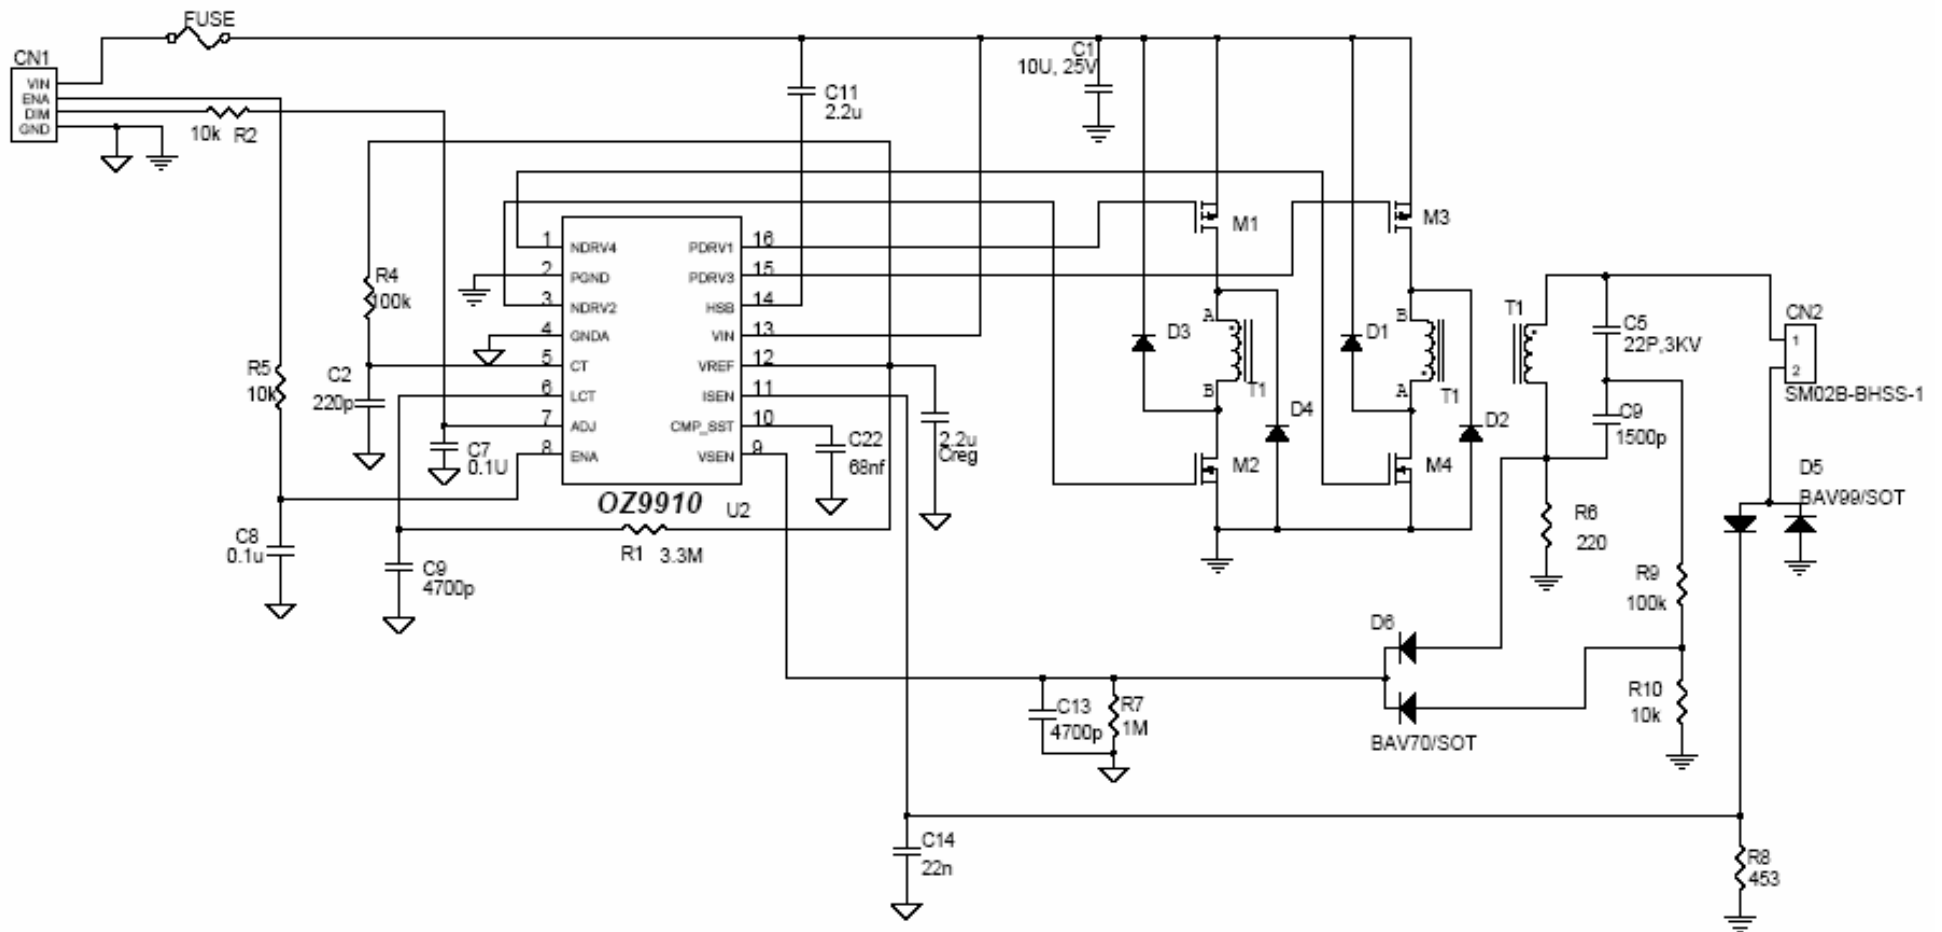

Figure 2. Application Circuit for CCFL
Referring to the schematics shown in Figures 2 and 3 on pages 10 and 11 the OZ9910 drives a zero-voltage switching (ZVS), dual forward power stage where the transformer couples the energy from the power source to the secondary load. In both applications, the voltage and the current can be used as the feedback control signals to regulate the outputs. In CCFL applications, Figure 2, page 10 the current flowing through the CCFL is sensed and regulated, through sense resistor R8, then compared with a reference voltage via a current amplifier, resulting in PWM drive outputs to the dual forward converter switches. Switches M1, M2, M3, M4 are configured such that the switch in each pair, M1/M4 and M2/M3, are turned-on complementarily. The amount of time where switches M1/M2 and M3/M4 conduct, determine the amount of energy delivered to the load. A voltage loop is established to monitor the output voltage such that a required turn-on voltage is achieved. A soft-start circuit ensures a gradual increase in the output power to minimize stress to the other components. The capacitor at CMP_SST (pin 10), determines the rate of rise of the voltage on CMP_SST pin, where the voltage at this pin determines the on-time duration of switches M1/M2 and M3/M4.
Referring to Figure 2, page 10 in the case of an open-lamp condition emulating an aged lamp, the OZ9910 provides an optional, user-defined, turn-on frequency. The turn-on frequency is implemented through capacitor C2 connected to CT pin. The striking (turn-on) time is determined by capacitor C9 connected to LCT (pin 6). The ignition voltage (open-lamp voltage) is regulated through the voltage feedback loop. This highly integrated circuit (IC) provides a cost effective yet high-degree of design flexibility.